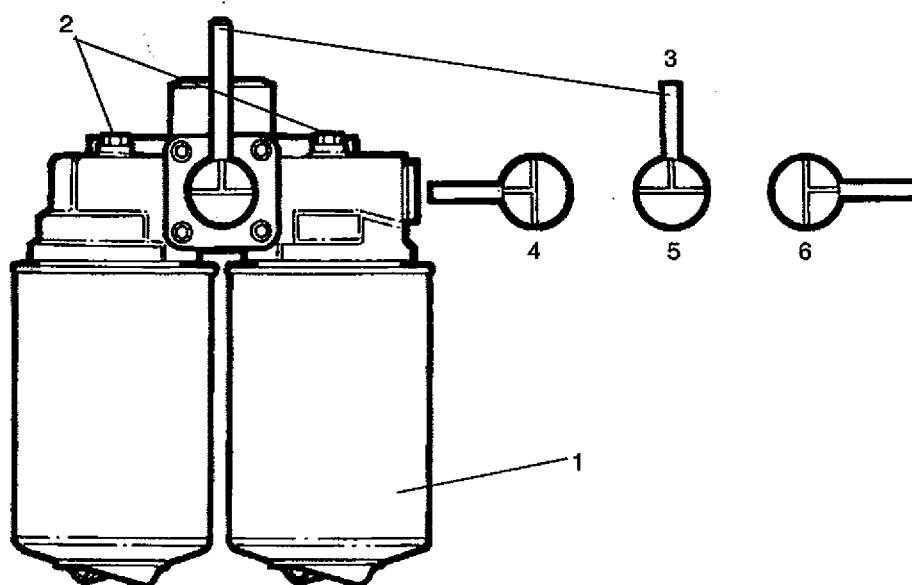

Fig. 7N
These special duplex fuel filters are normally intended for use on long running engines, or where a servicing requirement may occur when it is impracticable to stop the engine to change the filter elements. For this reason they are fitted with a 3 way change-over valve in the head, which enables the elements to be changed, one at a time, whilst the engine continues to run at idling speed, **Fig. 7N.**
(Fig. 7N)
The fuel supply to the engine is via the suction pipe (1) and strainer (2) to the inlet connection on the lift pump (3). From the lift pump outlet connection (4) via the delivery pipes (5), (6) and (7) to the fuel filter inlet connections (8). After passing through the fuel filters (see **Fig. 7N**) the fuel flows via the filter outlet connections (9) and the feed pipes (10) and (11) to the fuel rails (see **Fig. 8N**).